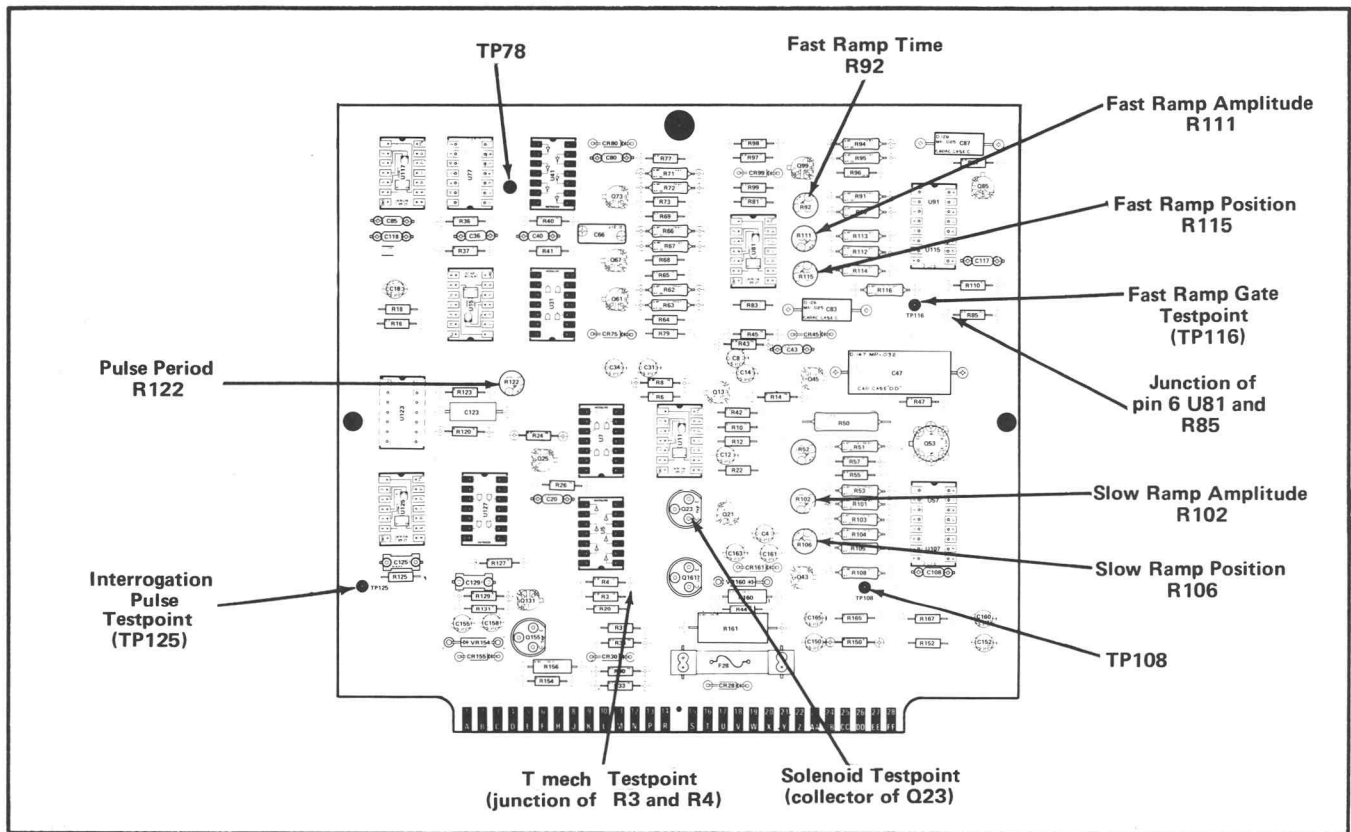
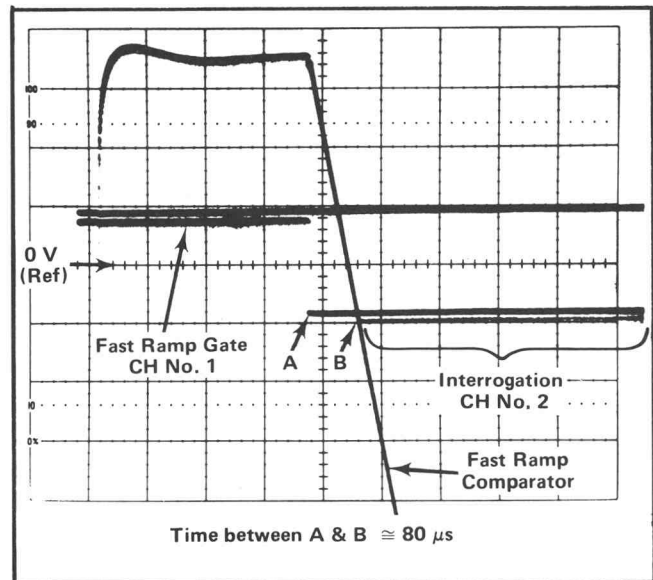
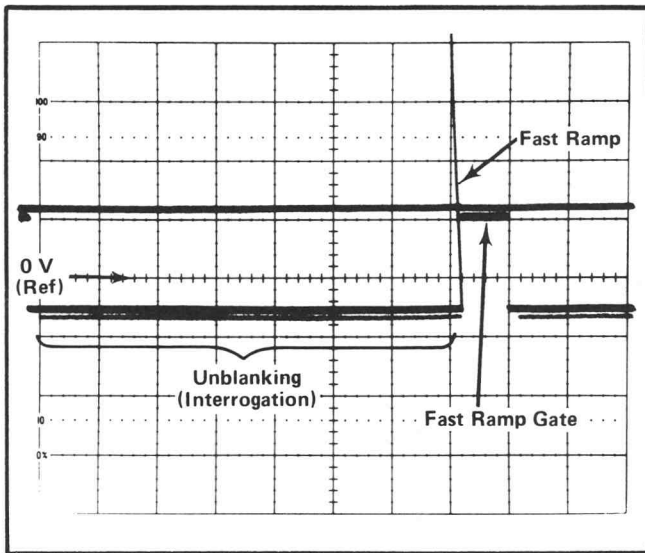

Fig. 5-2. Location of Timing circuit card adjustments and testpoints.
Fig. 5-3. Illustration showing correct test oscilloscope display when R115 Fast Ramp Position is properly adjusted
Fig. 5-4. Illustration showing correct test oscilloscope display when R111 Fast Ramp Amplitude is properly adjusted.
b. Connect a 1X probe from the test oscilloscope Channel 1 input to TP125 on the timing circuit card. See Fig. 5-2.
e. ADJUST—R122 Pulse Period (Fig. 5-2) fully clockwise and fully counterclockwise, and check for an adjustment range ≥ 1.5 microseconds to ≤ 4 microseconds. Adjust R122 for a pulse period of between 1.5 to 4 microseconds.
b. Connect a 1X probe from the test oscilloscope Channel 1 input connector to the junction of U81, Pin 6 and R85, on the timing circuit card. See Fig. 5-2.
c. Connect a 1X probe from the test oscilloscope Channel 2 input connector to TP125 on the timing circuit card. See Fig. 5-2.
d. CHECK—Test oscilloscope display while varying R92 Fast Ramp Time (Fig. 5-2) fully clockwise, and then fully
e. ADJUST—R92 Fast Ramp Time (Fig. 5-2) for a ramp time of 4 milliseconds.
g. Connect a 1X probe from the +input connector on the differential unit in the test oscilloscope to TP116 on the timing circuit card. See Fig. 5-2. Do not disconnect the other two probes at this time.
h. CHECK—Test oscilloscope display as R111 (Fig. 5-2) is rotated from its fully counterclockwise position to its fully clockwise position. The signal amplitude should be less than 10 volts when the control is fully counterclockwise, and greater than 10 volts when the control is fully clockwise. Observe the test oscilloscope display as R115 (Fig. 5-2) is varied from its fully counterclockwise position to its fully clockwise position. Note that the center of the 10 volt ramp is varied about a 0 volt level.
l. CHECK—Test oscilloscope display for a waveform which appears similar to that waveform shown in Fig. 5-3.
m. ADJUST—R115 (Fig. 5-2) Fast Ramp Position so that the fast ramp passes through the null point (center of test oscilloscope CRT) where the interrogate pulse train touches the reference line as shown in Fig. 5-3.
p. CHECK—Test oscilloscope display should show that the bottom tip of the ramp falls on the center of the CRT. See Fig. 5-4.
q. ADJUST—R111 Fast Ramp Amplitude (Fig. 5-2) so that the bottom tip of the ramp falls on the center of the test oscilloscope CRT. See Fig. 5-4.
b. Connect a 1X probe from the test oscilloscope Channel 2 input connector to TP78 and a 1X probe from the + input connector of the differential unit to TP108 on the timing circuit card. See Fig. 5-2.
i. ADJUST—R106 Slow Ramp Position (Fig. 5-2) until the start of the slow ramp is at the reference line (+5.000 volts) ± 1 major division (± 50 millivolts).
l. ADJUST—R102 Slow Ramp Amplitude (Fig. 5-2) until the start of the slow ramp is at the center reference line of the test oscilloscope CRT within ± 1 major division.